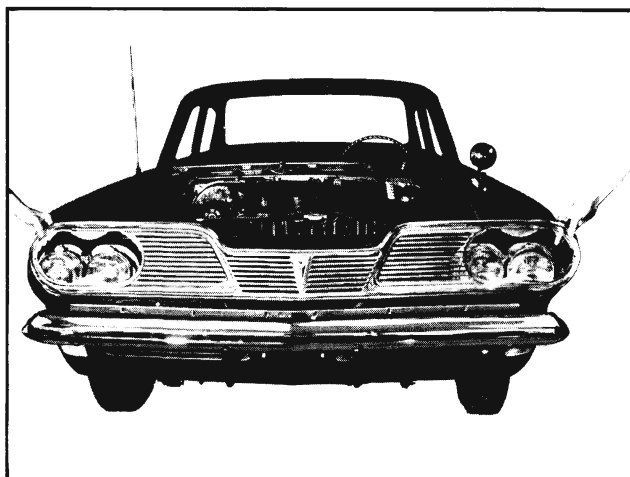

Fig. 10-12 Removing Grille Assembly
8. Remove grille from car (Fig. 10-12).